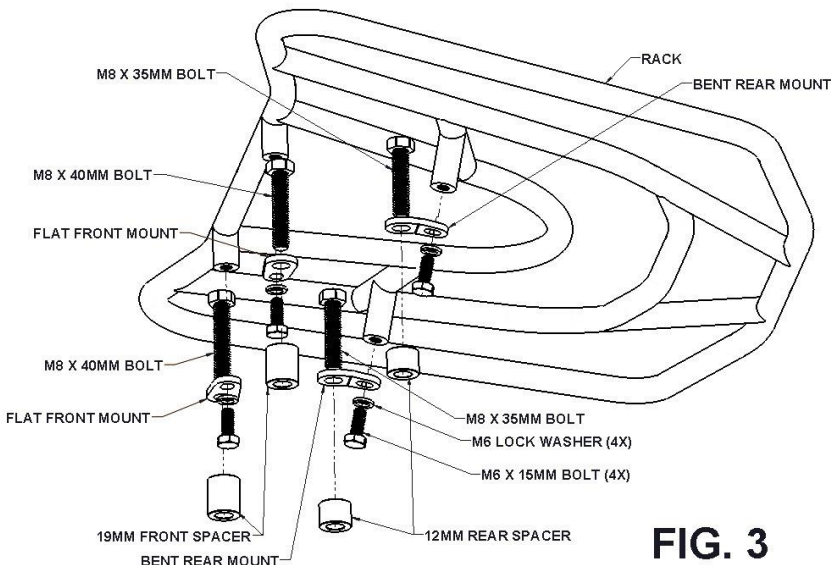

FIG. 3
8. INSTALL THE RACK USING THE FOUR M6 X15MM LONG HEX BOLTS AND LOCK WASHERS. THE BOLTS GO THROUGH THE SLOTTED HOLES ON THE FRONT AND THE REAR MOUNTS FROM THE BOTTOM. SEE FIG. 3. TIGHTEN FINGER TIGHT.